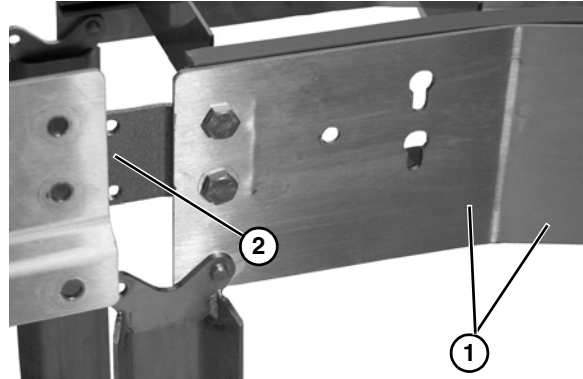

Figure 14
3. When securing straight section to curved section on inside curve (Figure 14, item 1) make sure offset plate is to the inside of straight section (Figure 14, item 2).